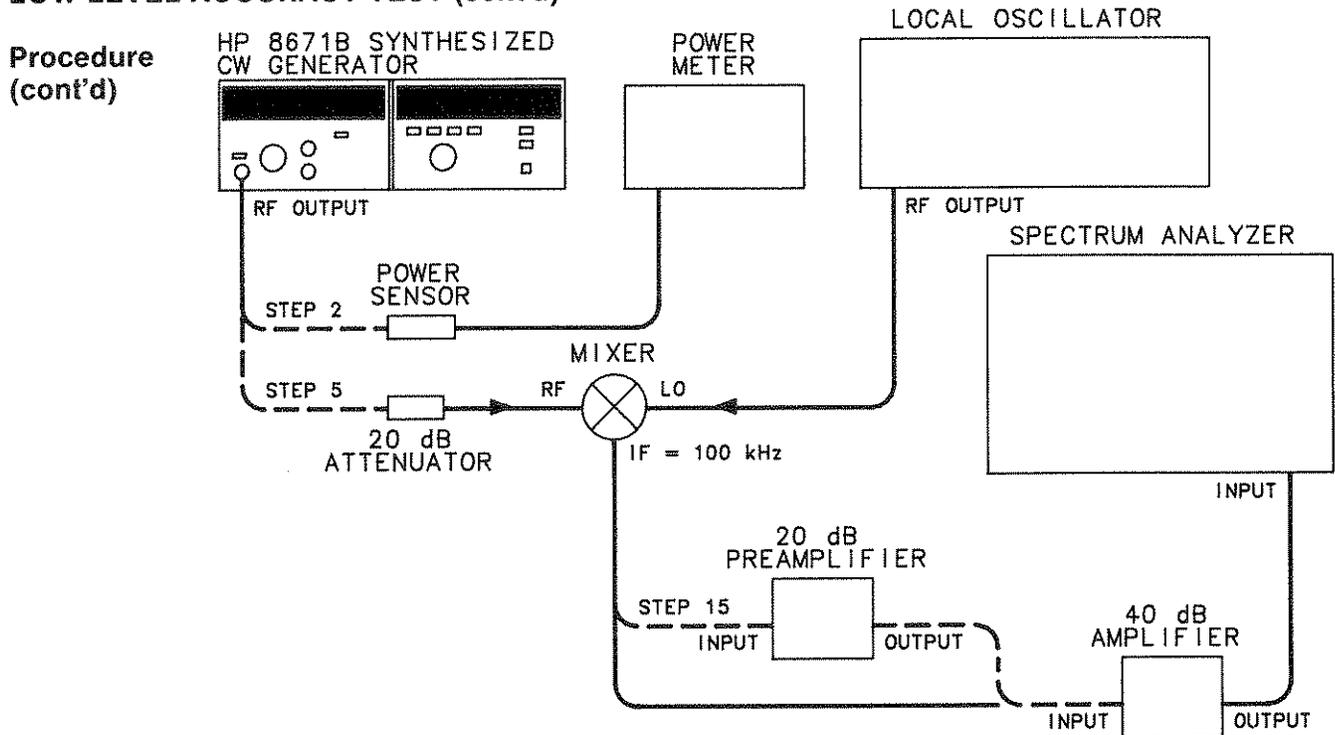

Figure 4-6. Low Level Accuracy Test Setup
2. Connect the equipment as shown in Figure 4-6.
5. Disconnect the power meter and connect the CW Generator to the mixer as shown in Figure 4-6.
15. Connect the 20 dB Preamplifier as shown in Figure 4-6. Set the spectrum analyzer IF sensitivity 20 dB higher, and set the vertical sensitivity to bring the signal back to the reference level noted in step 14.